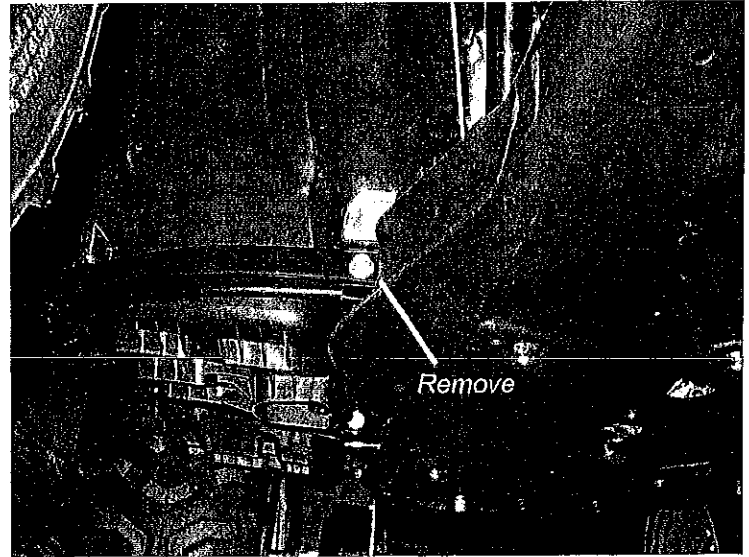

Figure 1 - Remove Bolts
1. Remove the two outer M8 floorboard bolts, figure 1. Keep the M8 nuts for reassembly.